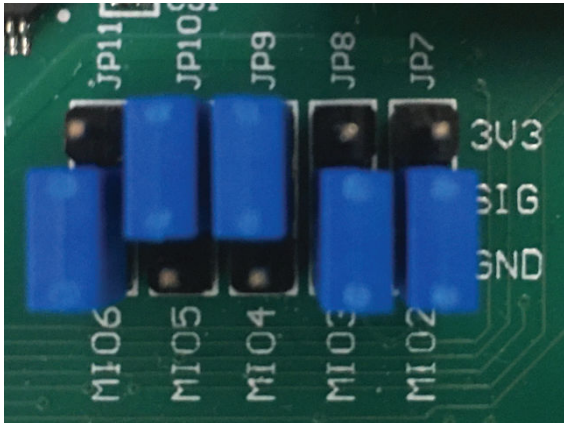

Figure 2. ZedBoard Boot Configuration Jumpers
- 2. Ensure the ZedBoard boot configuration jumpers are set to use the Micro-SD card as shown in Figure 2. To avoid potential damage when JPIO is changed as described in Table 1, ensure that the VADJ SELECT jumper is set to the correct voltage for the EVAL-AD4858FMCZ.